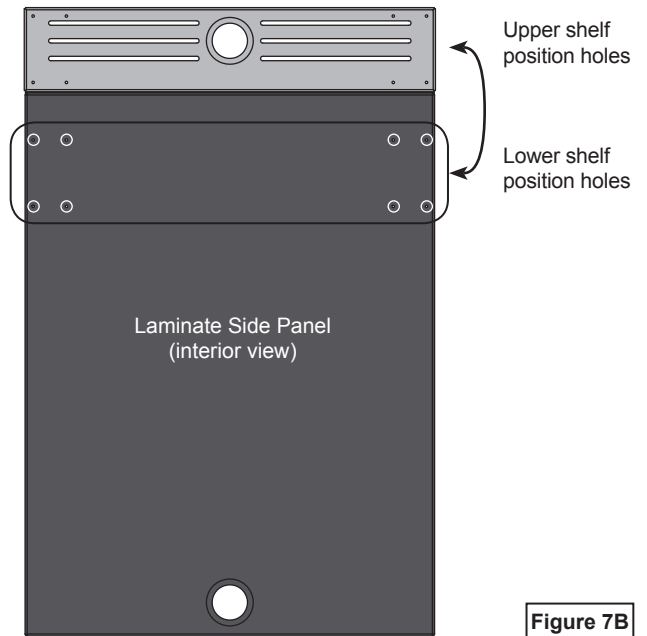

Figure 7B
2. From inside the lectern, use a drill with a 3/16" drill bit and slowly drill out the corresponding pre-drilled pilot holes located on the laminate side panel. **Figure 7B**. Masking tape can be used on the exterior to minimize chip-out.